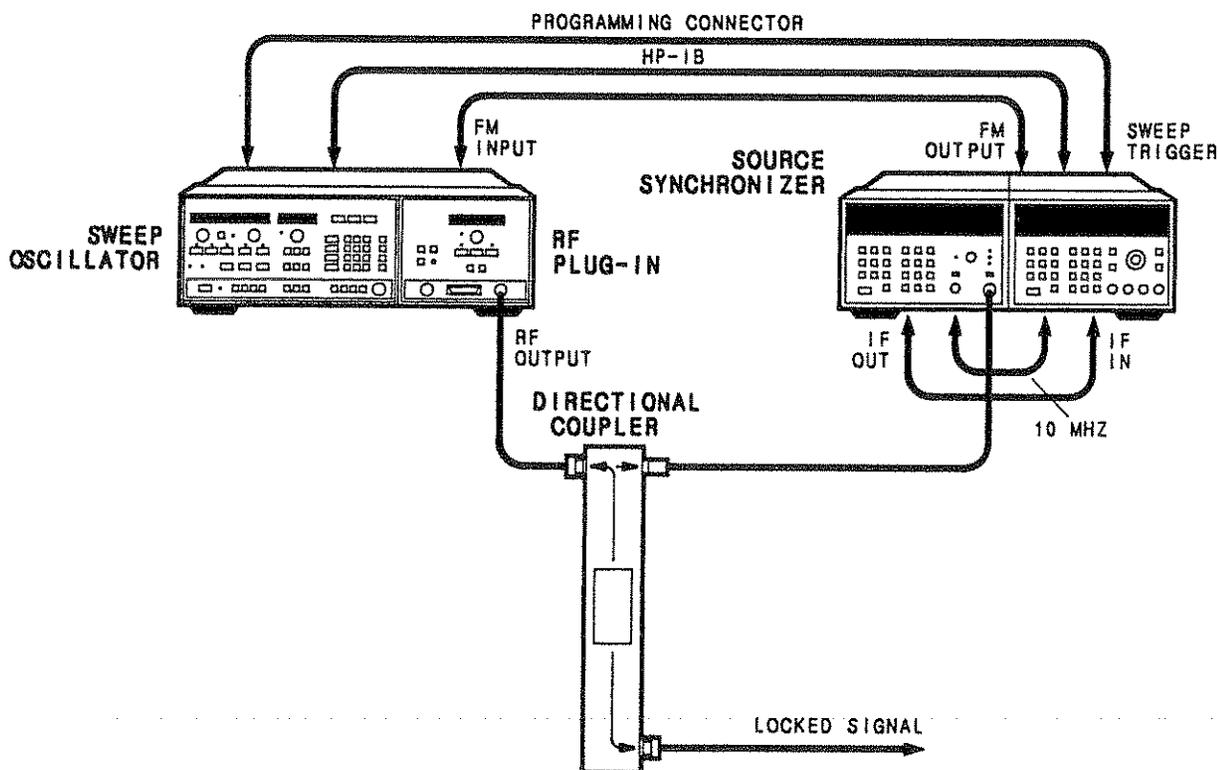

Figure 3-9. Phase-Locking Using the HP 5344S Microwave Source Synchronizer
2. Connect the equipment as shown in Figure 3-9. Turn the instruments on and let them warm up for at least one hour.